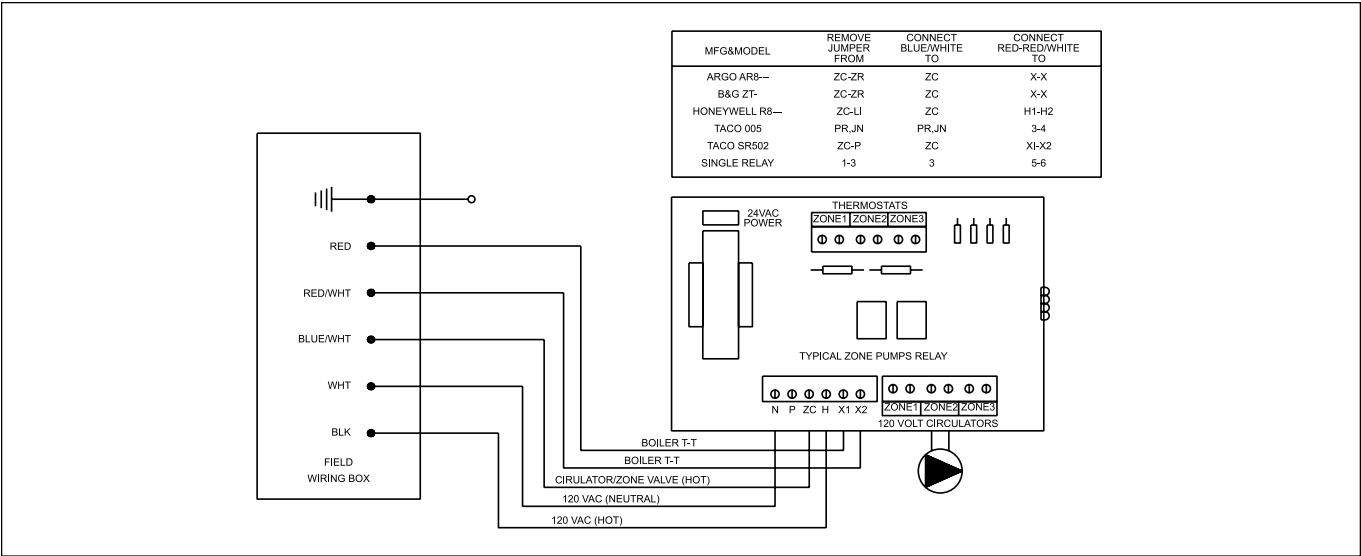

Figure 24. Multiple Zones with Circulators and Room Thermostats.
4. Multi zone/Multi-relay-circulator Installations: Multiple circulators must not exceed 5 amps total when connected to blue wire (see Figure 24).